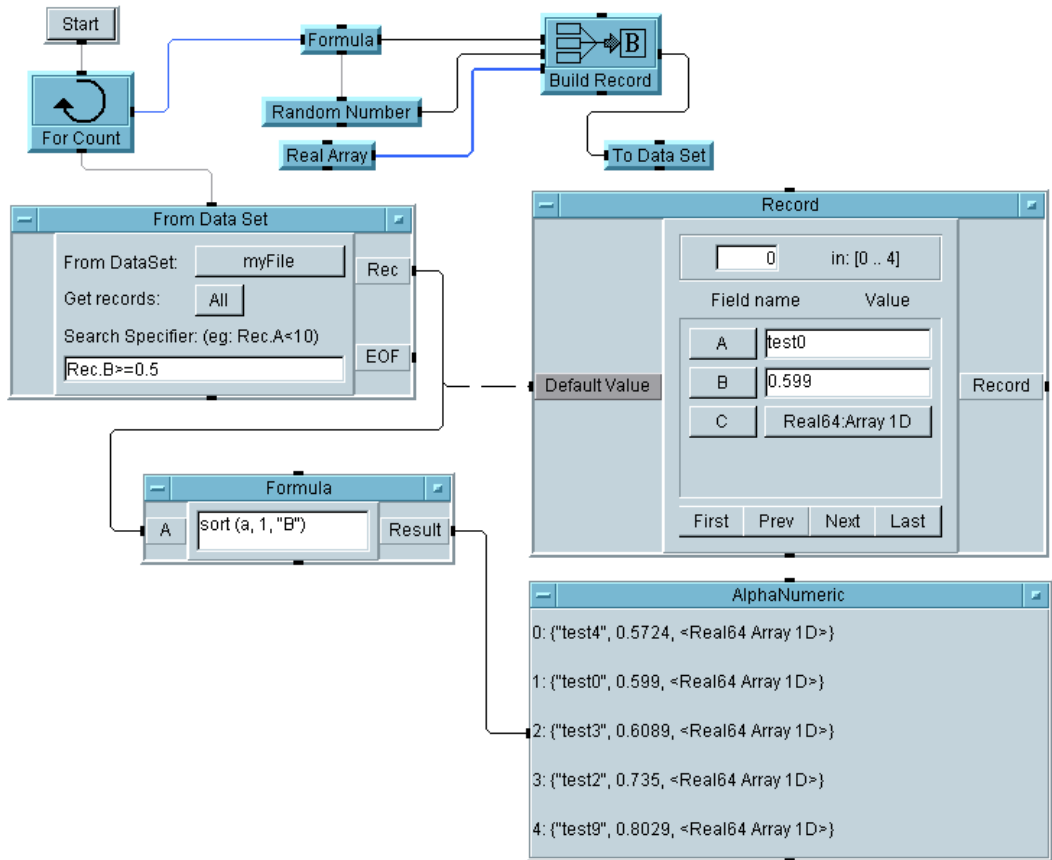

Figure 5-20. A Sort Operation on a Record Field
4. Run the program a few times. It should look similar to Figure 5-20. Notice that the program sorts all of the records returned from the `DataSet` file in ascending order by field `B`.